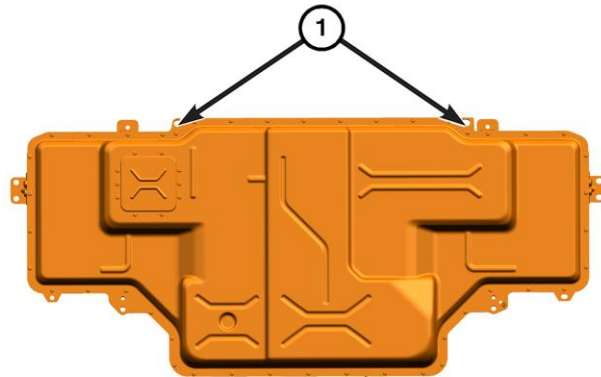

Figure 23 – Support Mounting Holes
51. Install two Eyebolt, 10mm 2035203080 with the nuts to the front support mounting holes (1) (Figure 23).